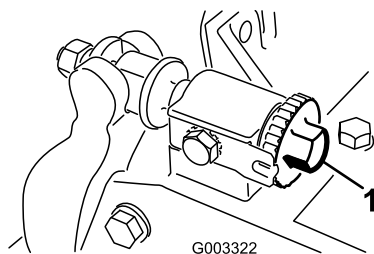

Figure 12
2. Turn the bedbar-adjusting screws counterclockwise to ensure that the bedbar does not contact the reel (Figure 12).